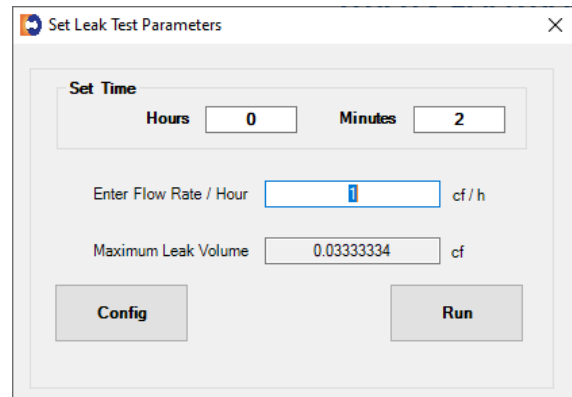

Figure 7.12 Example- Dresser MeterWare configuration screen for the downstream leak test
2. Using Dresser MeterWare allows the operator to both run the leak test as well as adjusting the test parameters as shown in Figure 7.12 Example. After testing, a PASS or FAIL notification is provided on both the computer screen as shown in Figure 7.13 Example and on the meter as described in the magnetic interface section above.